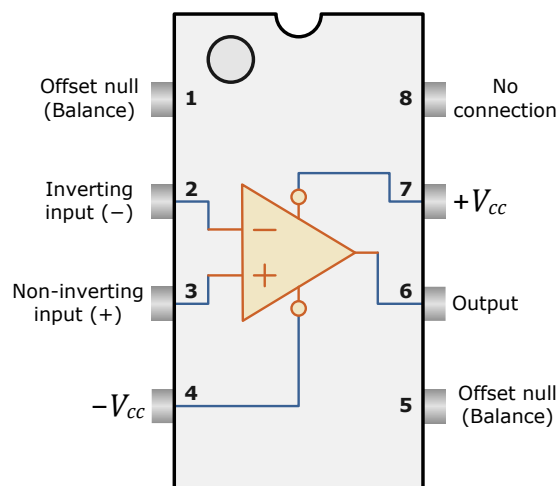

Figure 6.1: Physical layout of LM741 Operational Amplifier (note that V_{cc} and $-V_{cc}$ are DC voltages from the power supply used to power up the Op Amp).
- 2 Considering the physical layout of the LM741 Op Amp shown in Figure 6.1, how many and which pins of the LM741 do you have to connect in a functional Op Amp circuit?
⚠ Make sure to properly connect **+15 V** DC voltage supply to **pin 7** and **-15 V** to **pin 4** according to the LM741 layout given in Figure 6.1.
- ⚠ Make sure to properly connect **+15 V** DC voltage supply to **pin 7** and **−15 V** to **pin 4** according to the LM741 layout given in Figure 6.1.
- ⚠ Make sure to properly connect **+15 V** DC voltage supply to **pin 7** and **-15 V** to **pin 4** according to the LM741 layout given in Figure 6.1.
⚠ Make sure to properly connect **+15 V** DC voltage supply to **pin 7** and **-15 V** to **pin 4** according to LM741 layout given in Figure 6.1.